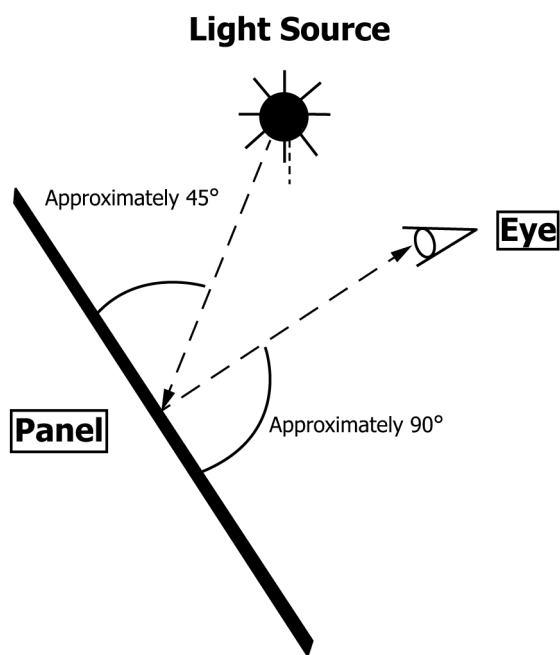

FIG. 1 Test Panel
9.2 Examine the test panel, as shown in Fig. 1, under illumination conditions as described in 6.2 at a viewing angle perpendicular to the surface of the panel, and select the point where the test pattern is just barely or no longer visible. The dry film thickness at this point is considered to be the hiding power of the coating.